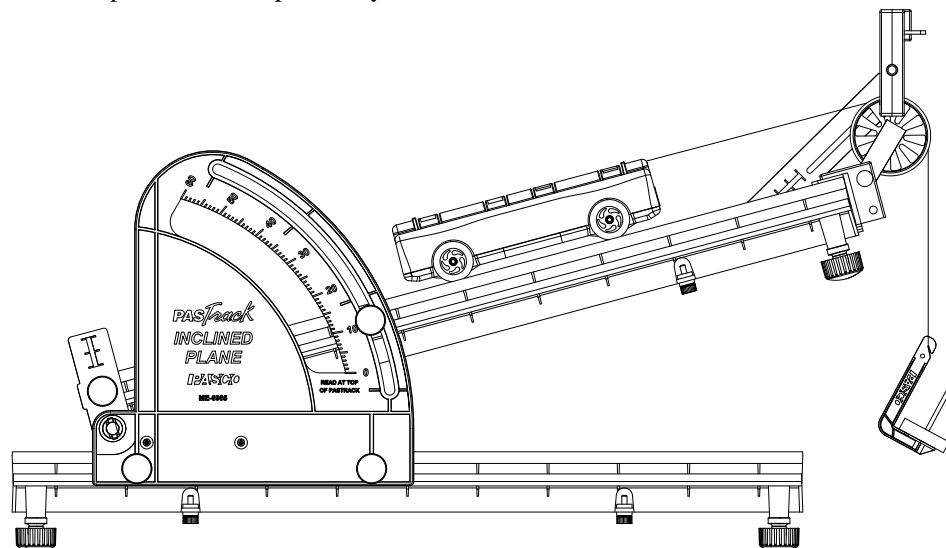

Figure 5.3
1. Set up the PASTrack and Inclined Plane Accessory as shown in Figure 5.3 with a Super Pulley with Clamp, Photogate Head, and Photogate Bracket. Elevate the PASTrack to an angle less than 30 degrees. Adjust the Photogate Head and Photo-